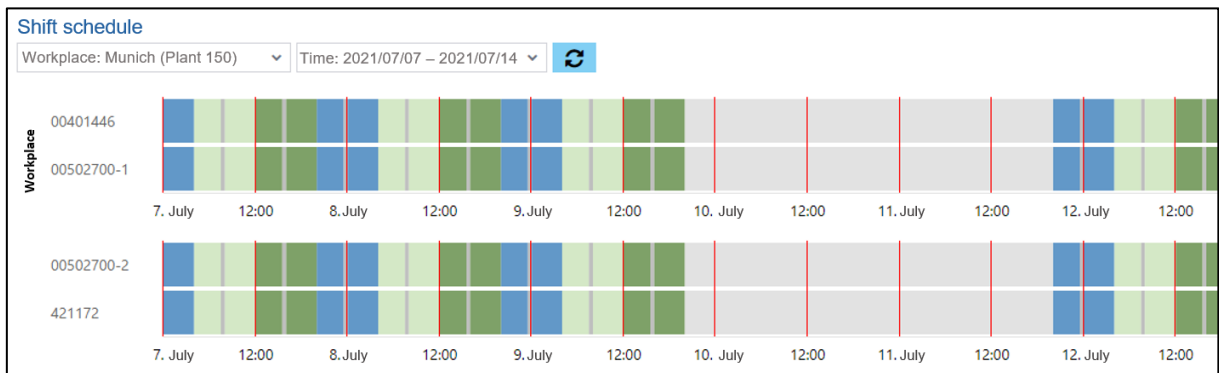

Fig. 153: Shift overview as Gantt chart
- Shift overview as Gantt chart (fig. 153):